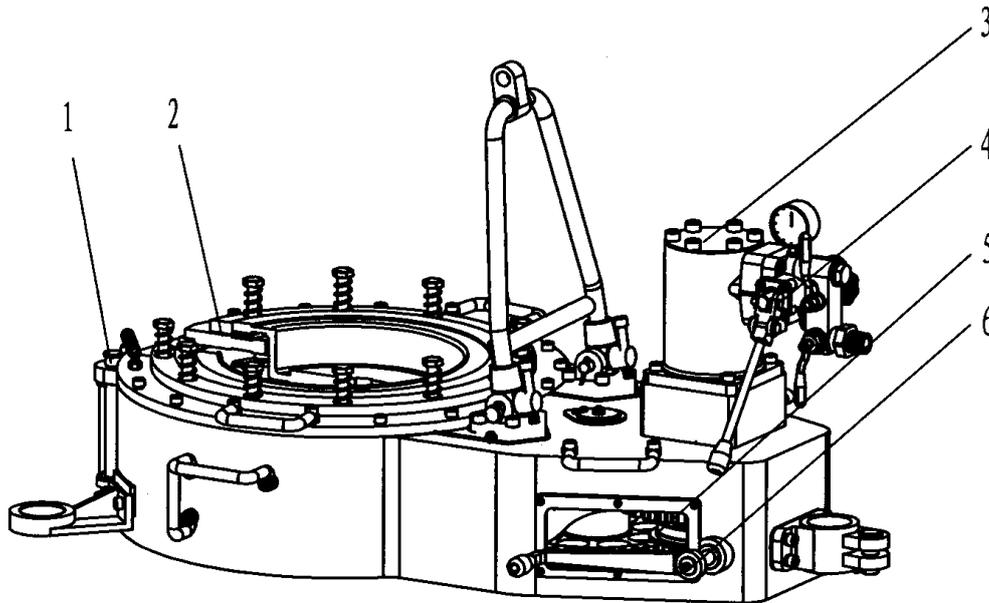

Fig2. Master tong
7.2 Master tong (Fig2. Table2)